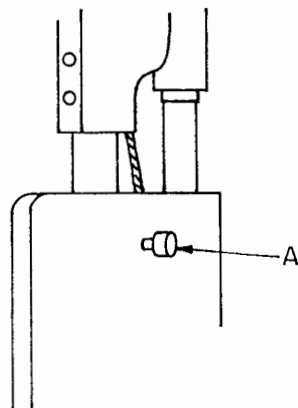

Fig. 322. Releasing the feeder latch.
2. Release the feeder latch, A, Figure 322, by pulling it out with the left hand.